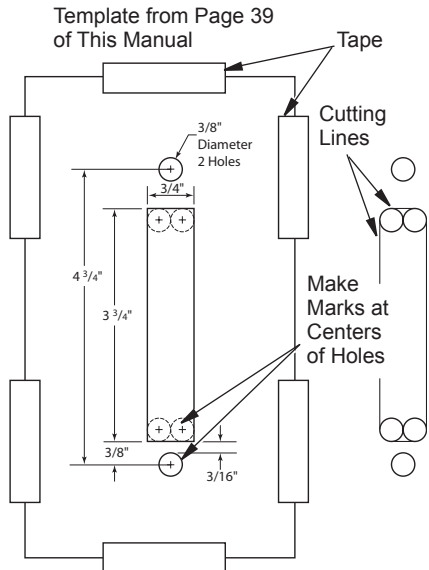

Figure 10 - Using Template (Page 39) for Wall Switch Assembly Installation
10. Using a straight edge and pencil, connect the outer edges of the 4 holes for the rectangle (see Figure 10). This will give you cutting lines for the rectangle you will cut in the wall.
- Using a straight edge and pencil, connect the outer edges of the 4 holes for the rectangle (see Figure 10, page 11). This will give you cutting lines for the rectangle you will cut in the mantel wall.